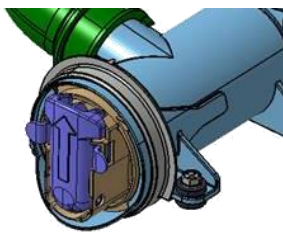

Fig. 1
- ↪ For machines manufactured with the new filter dial: open the flap at the bottom of the front panel. The filter knob is as shown in Fig. 1.